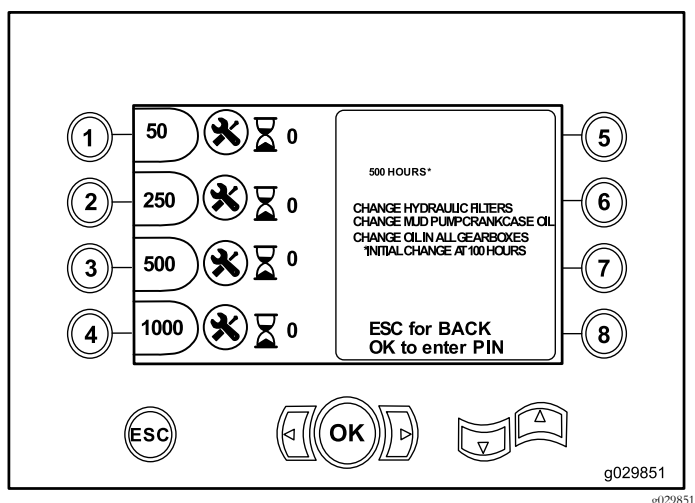

Figure 13
- Button 3—500-hour maintenance schedule (Figure 13)